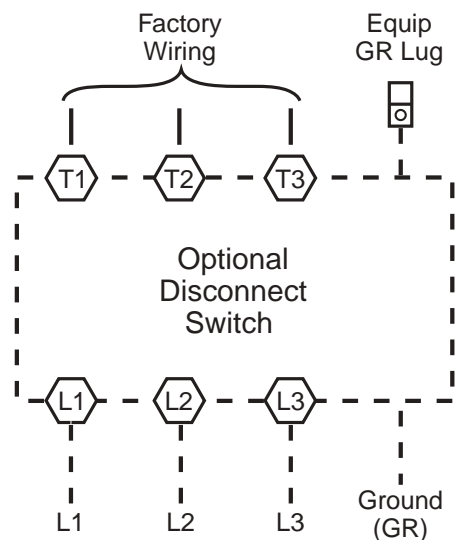

Fig. 22 — Power Wiring Connections
Size wire based on MCA (Minimum Circuit Amps) on the unit informative plate. See Fig. 22 for power wiring connections to the unit power terminal block and equipment ground. Maximum wire size is 2/0 AWG per pole.
3. Install power lines to terminal connections as shown in Fig. 22.